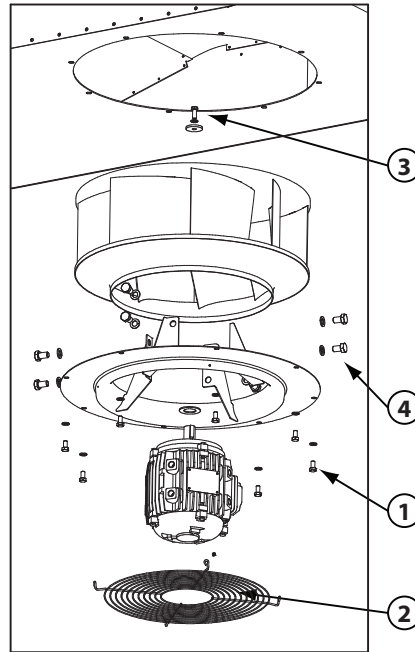

Figure 8. Removal of motor
- 5 Loosen the motor arrangement (eight M8x16) (1, fig. 8) from the fan casing and take it down.
- 6 Leave the wire guard affixed to the inlet nozzle (2, fig. 8).
- 7 Remove the impeller by removing the motor shaft screw (3, fig. 8).
- 8 Disconnect the motor from the inlet nozzle. It is attached with eight 12x20 screws (4, fig. 8).
- 2 Affix the motor to the inlet nozzle with the eight 12x20 screws (4, fig. 8).
- 4 If the wire guard has been removed, then affix it to the inlet nozzle with four blind rivets 3.2x10 of stainless steel grade A2 (2, fig. 8).
- 5 Support and place the motor arrangement in the fan casing. Make sure to pull the motor cable along the same route as from the factory. The arrangement is attached with eight M8x16 screws (1, fig. 8).